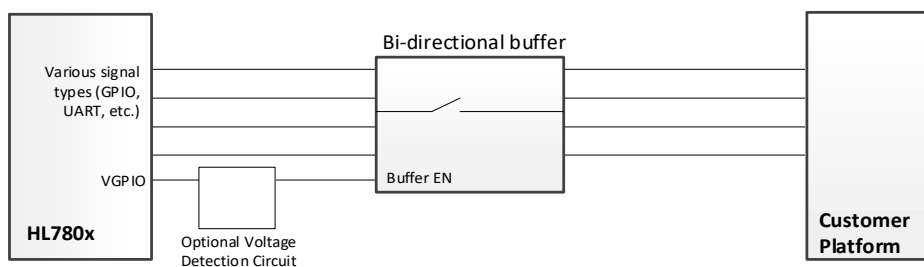
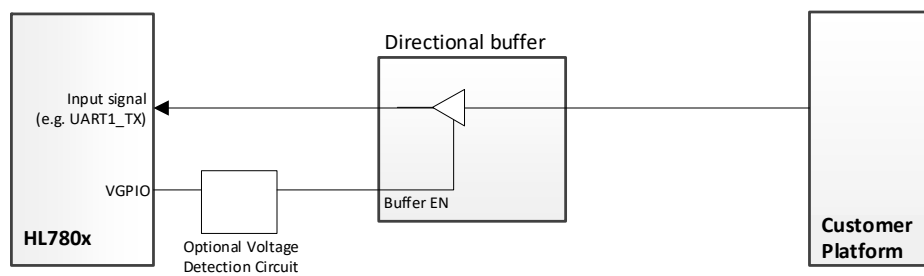

Figure 6-3: Example — Buffer – Bidirectional Signal
Figure 6-4: Example — Buffer – Directional Signal
- Bidirectional (Input/Output) signals — For module I/O signals (e.g. GPIOs), an analog switch that can tri-state both the output and the input can be used (e.g. Texas Instruments TMUX1511). As shown in Figure 6-3, I/O signals connected to the buffer will be tri-stated.
- Directional (Input) signals — For module inputs (e.g. UART1\_TX), a logic buffer with output tri-state mode can be used (e.g. Texas Instruments SN74LVC1G126). As shown in Figure 6-4, the signal is controlled and, when disabled, the output signal is tri-stated.
To ensure faster detection of VGPIO transitions, Sierra Wireless recommends adding an optional voltage detection circuit (as shown in Figure 6-3 and Figure 6-4) to monitor and detect the transition low, and then control (enable / disable) the associated buffer circuit.